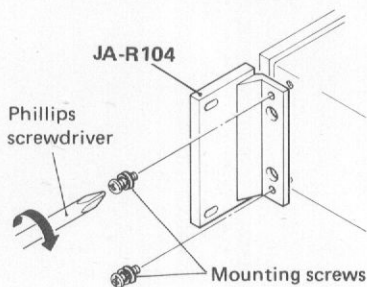

Fig. 1
2. Secure the JA-R104 adaptors onto the side panels with the accessory mounting screws (M4×10). (Fig. 1).